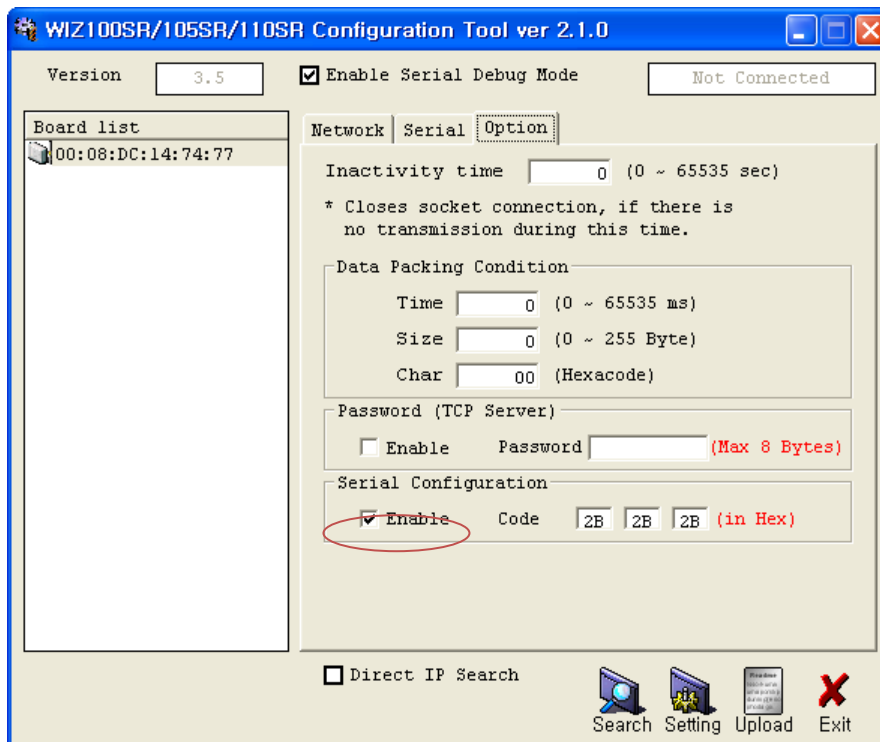

Figure 14. Serial Configuration Enable Setting
④ When uploading is complete, a message box with “Complete Uploading” will be displayed as shown in Figure 14.